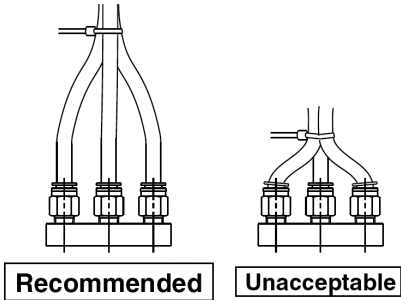

Figure 8
- Do not apply external force to the fitting when binding tubes with bands etc. See Figure 8.